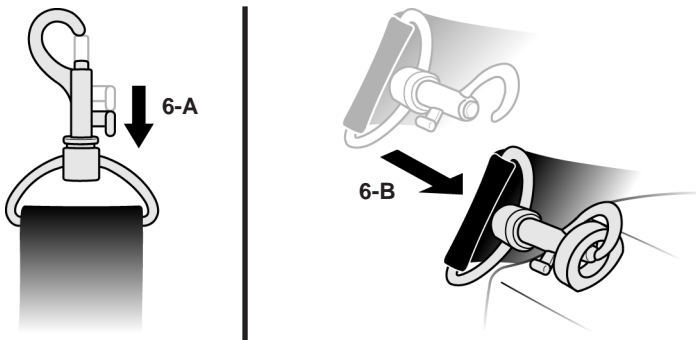

FIGURE 6
1. Grasp clasp on one end of Shoulder Strap. Press lever down to open clasp, and continue to hold open (FIGURE 6-A).
2. Thread clasp through one of the strap bases (it does not matter which one), then release lever to close clasp (FIGURE 6-B).